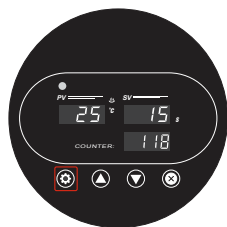
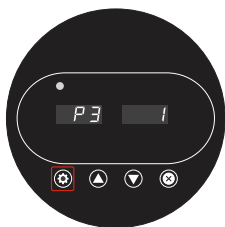

Fig. 11
Fig. 12
- Long press (⊕) set button on the control panel (Fig.11) about 8 seconds, and the machine will enter into the internal setting . Then Press (⊕) the set button twice until it shown like this. (Fig.12).